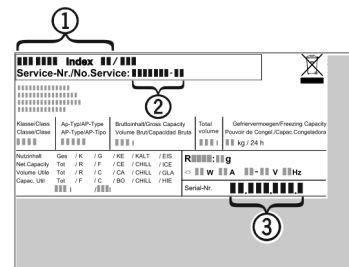

Fig. 7
- Read the appliance designation *Fig. 7 (1)*, service No. *Fig. 7 (2)* and serial No. *Fig. 7 (3)* off the model plate located inside the appliance on the left-hand side.
- Notify the customer service, specifying the fault, appliance designation *Fig. 7 (1)*, service No. *Fig. 7 (2)* and serial No. *Fig. 7 (3)*.